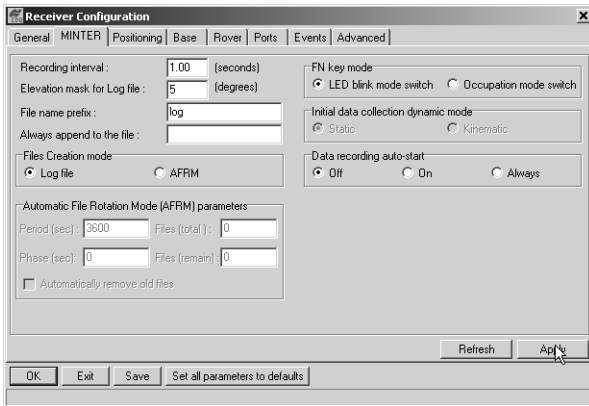

Figure 3-2. Configuration->Receiver->MINTER
2. Open PC-CDU, click **Configuration** ▶ **Receiver** ▶ **MINTER** and specify the following parameters, then click **Apply** (Figure 3-2 on page 3-7):